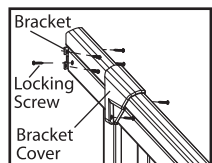

Figure 4
7. Slide top rail bracket covers onto top rail. Slide the metal top rail brackets into the ends of the top rail (Fig. 4). Place top rail on spindles inserting spindles one at a time while holding at an upward angle. Make sure rail is flush on all spindles (Fig. 5). **Note:** If the railing is trimmed down from its original length, it may be necessary to notch the spindles closest to the posts for proper fit around the inserted metal bracket.